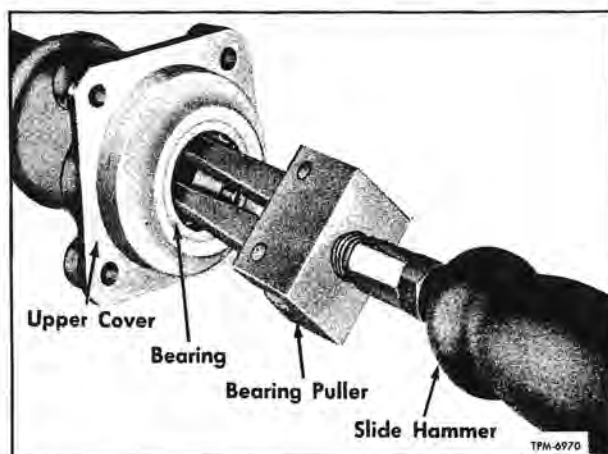

Figure 7—Removing Bearing from Upper Cover
8. Disassemble upper bearing by removing retainer ring (39); then remove washer (40), packing (41), outer race (42), 14 balls (43), and the inner race (44).
9. With a suitable puller and slide hammer, remove the bearing assembly (35) from bevel gear upper cover (1) (fig. 7).
10. Remove housing vent assembly (5) and reducing bushing (3) from upper cover (1).